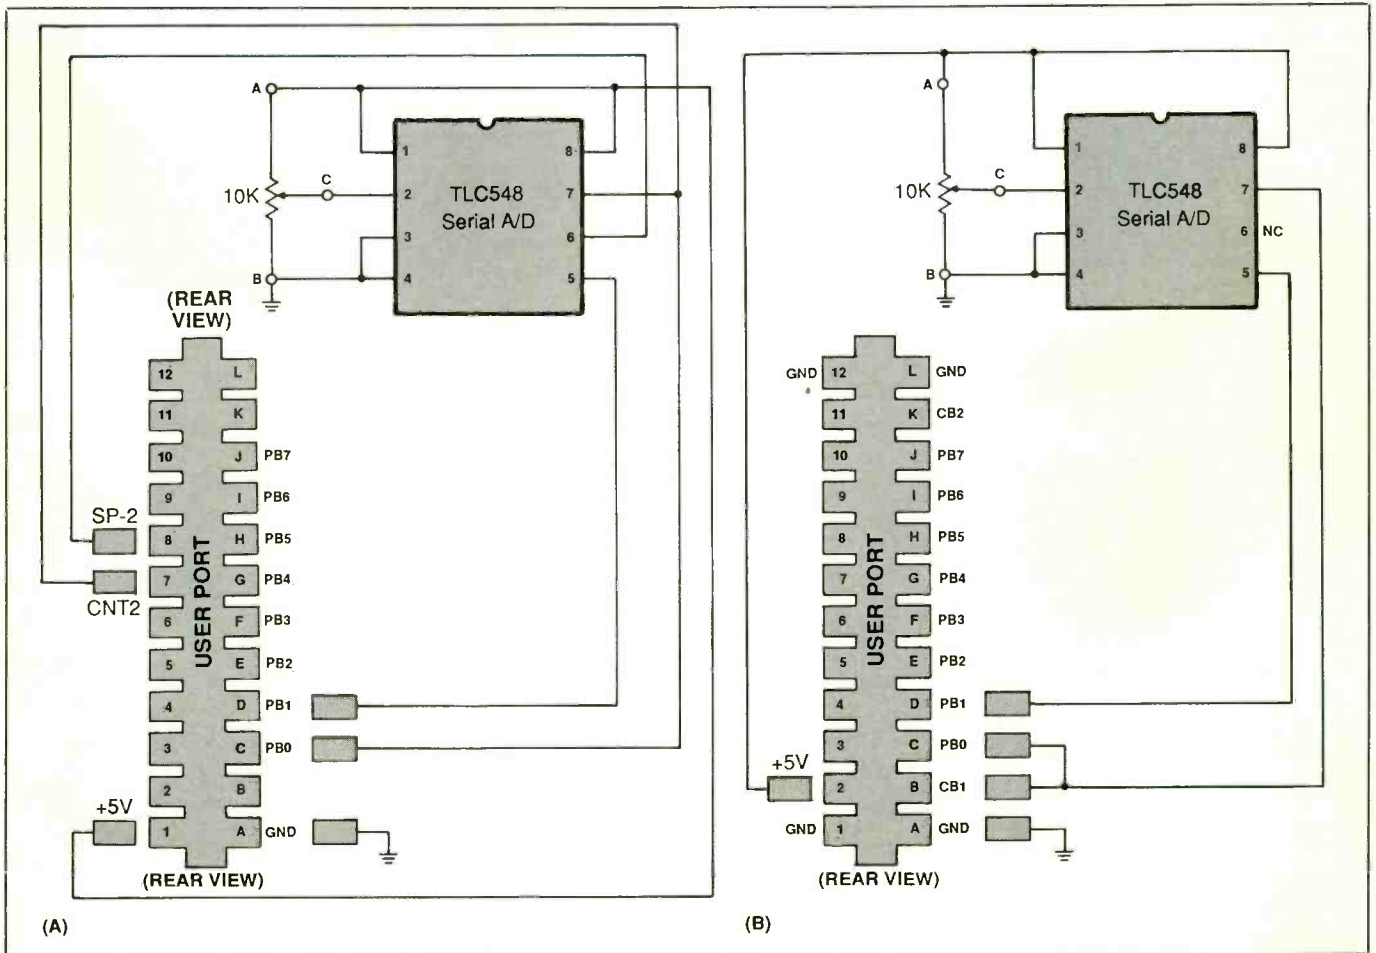

Fig. 6. How a TLC548 serial A/D converter chip is used to interface the C-128 and C-64 (A) and the VIC-20 (B) to the real-world environment.
tacts, as illustrated in Fig. 6. Two of these are the serial and clocking lines for the serial register. Figure 6(A) shows the arrangement to use for C-128 and C-64 computers. The serial and clocking lines for these two computers are at CNT2 and SP-2, respectively, on the User Ports. The arrangement to use for the VIC-20 computer is shown in Fig. 6(B), which picks up the serial line at CB2 and clocking line at CB1 on the User Port. The other two lines that provide the clocking signal and chip-enable function come from the computer's parallel port.
When building the appropriate Fig. 6 circuit for your particular computer, be sure to use a socket for the serial A/D chip. The outer lugs of the 10,000-ohm potentiometer shown in both circuits must be connected between +5 volts and ground at pins 1 and 4 of the A/D chip. The potentiometer's wiper then wires directly to the chip's analog input at pin 2. This control is used here for testing purposes.
The relationship between the maximum 255 count of the A/D converter and V_{ref} tells you what each increment represents with respect to the voltage being measured. If the range is from 0 to +5 volts, each increment is $5 \text{ volts} / 255 = 0.01960788431$ volt per step. Each time the voltage varies by this amount, the reading of the serial point will vary one point. If the computer is reading 100, the voltage at pin 2 of the A/D converter chip is $100 \times 0.01960788431 = 1.960788431$ volts, or approximately 2 volts. By substituting different transducers for the potentiometer shown in the Fig. 6 circuit, you can have your computer measure levels of light, heat, toxic gas and galvanic skin resistance.